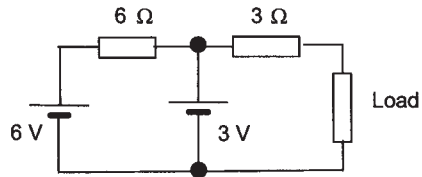

Figure 18.40 *Problem 9*
- 9 With the aid of Thévenin's theorem, determine the value of the load resistance for Figure 18.40 which will give maximum power transfer.